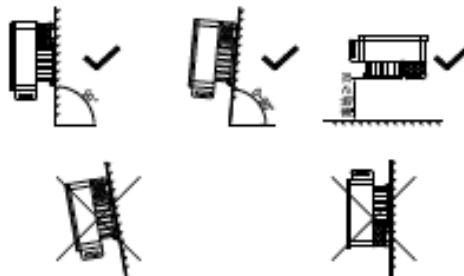

Figure 5.1
- A. Ensure that the installation wall is solid enough to bear the inverter. (Inverter weight please refer to installation manual Figure 5.1)